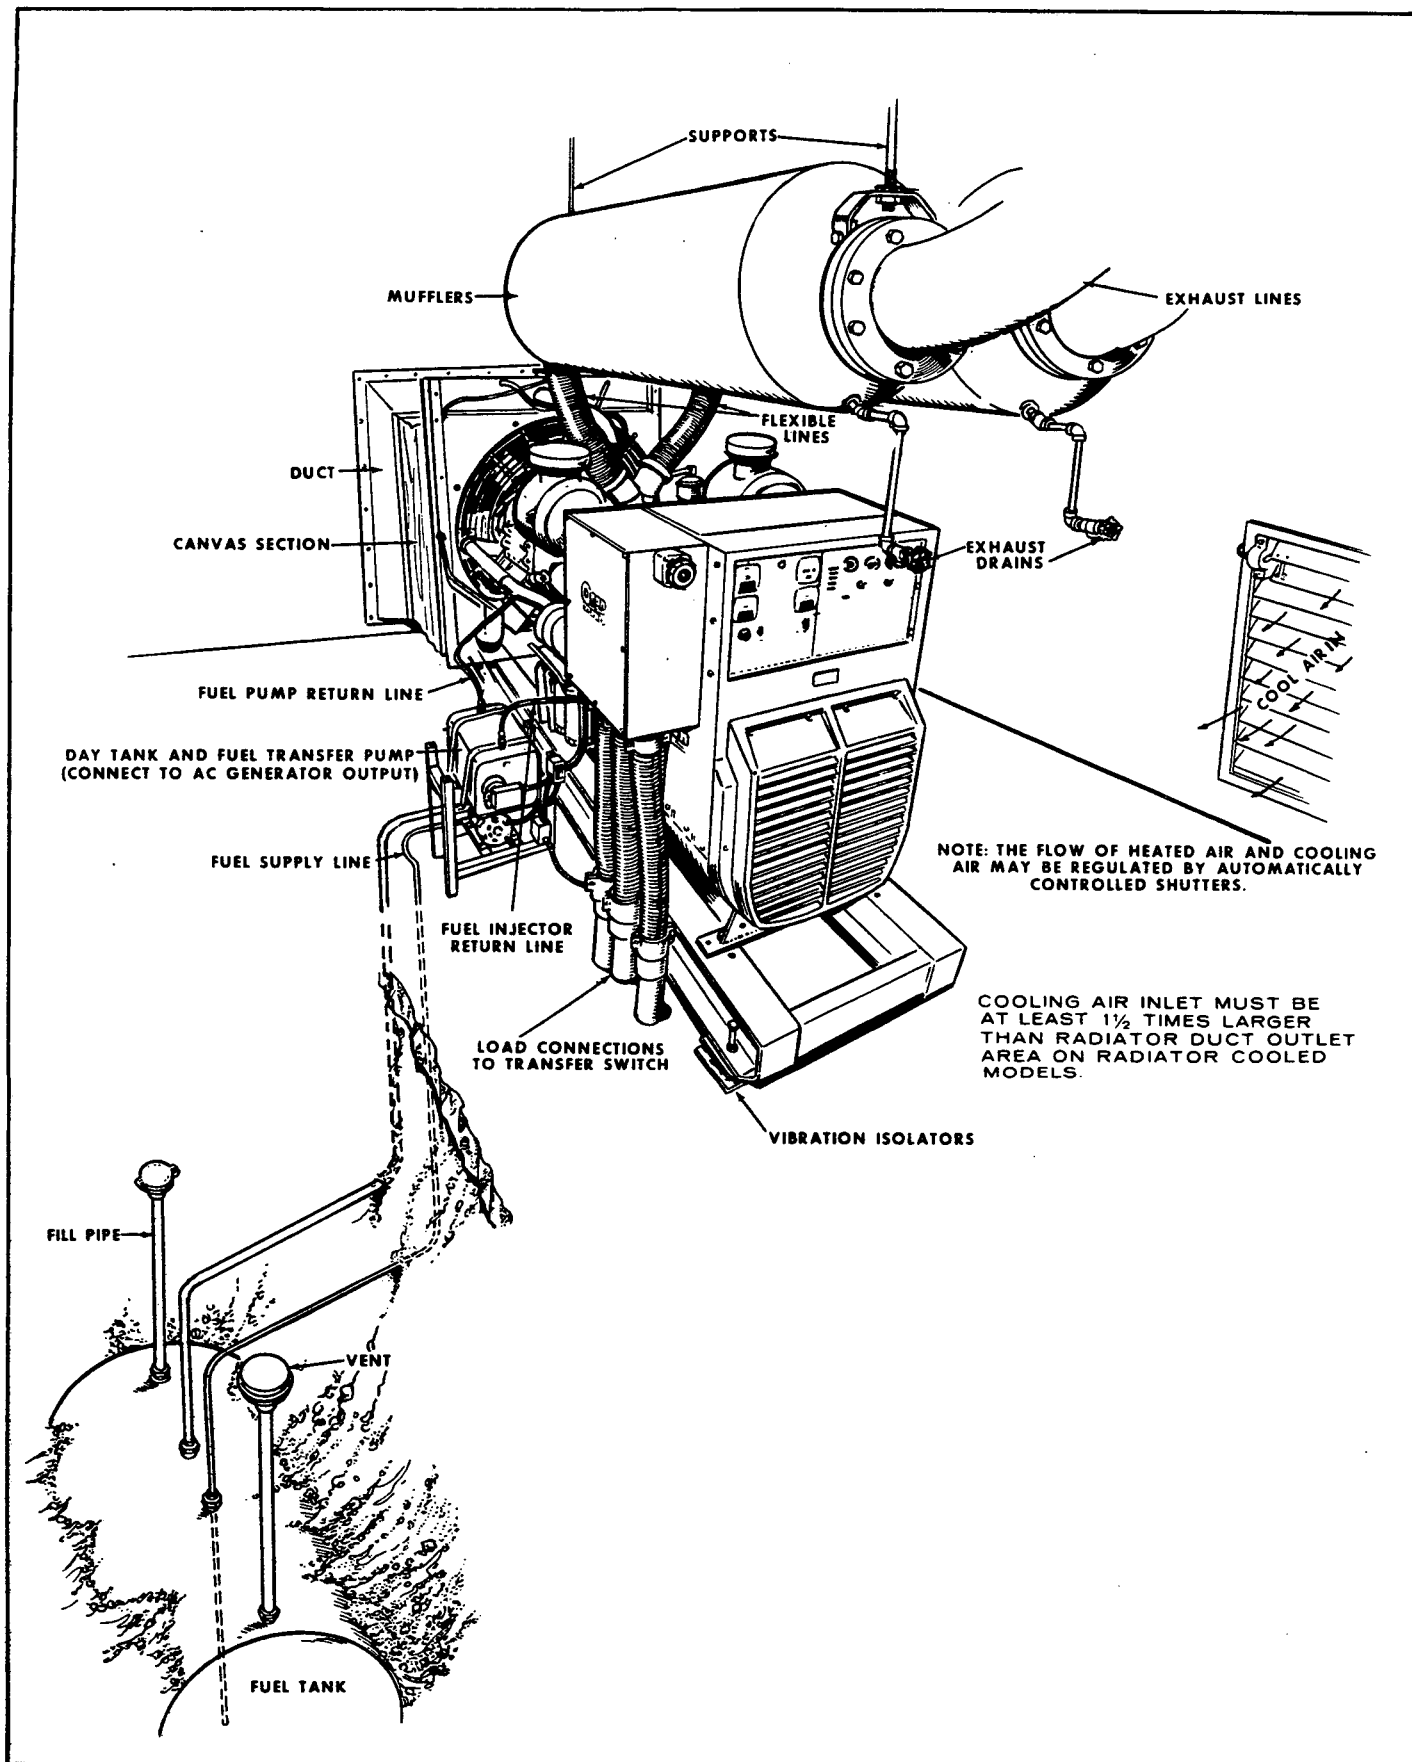
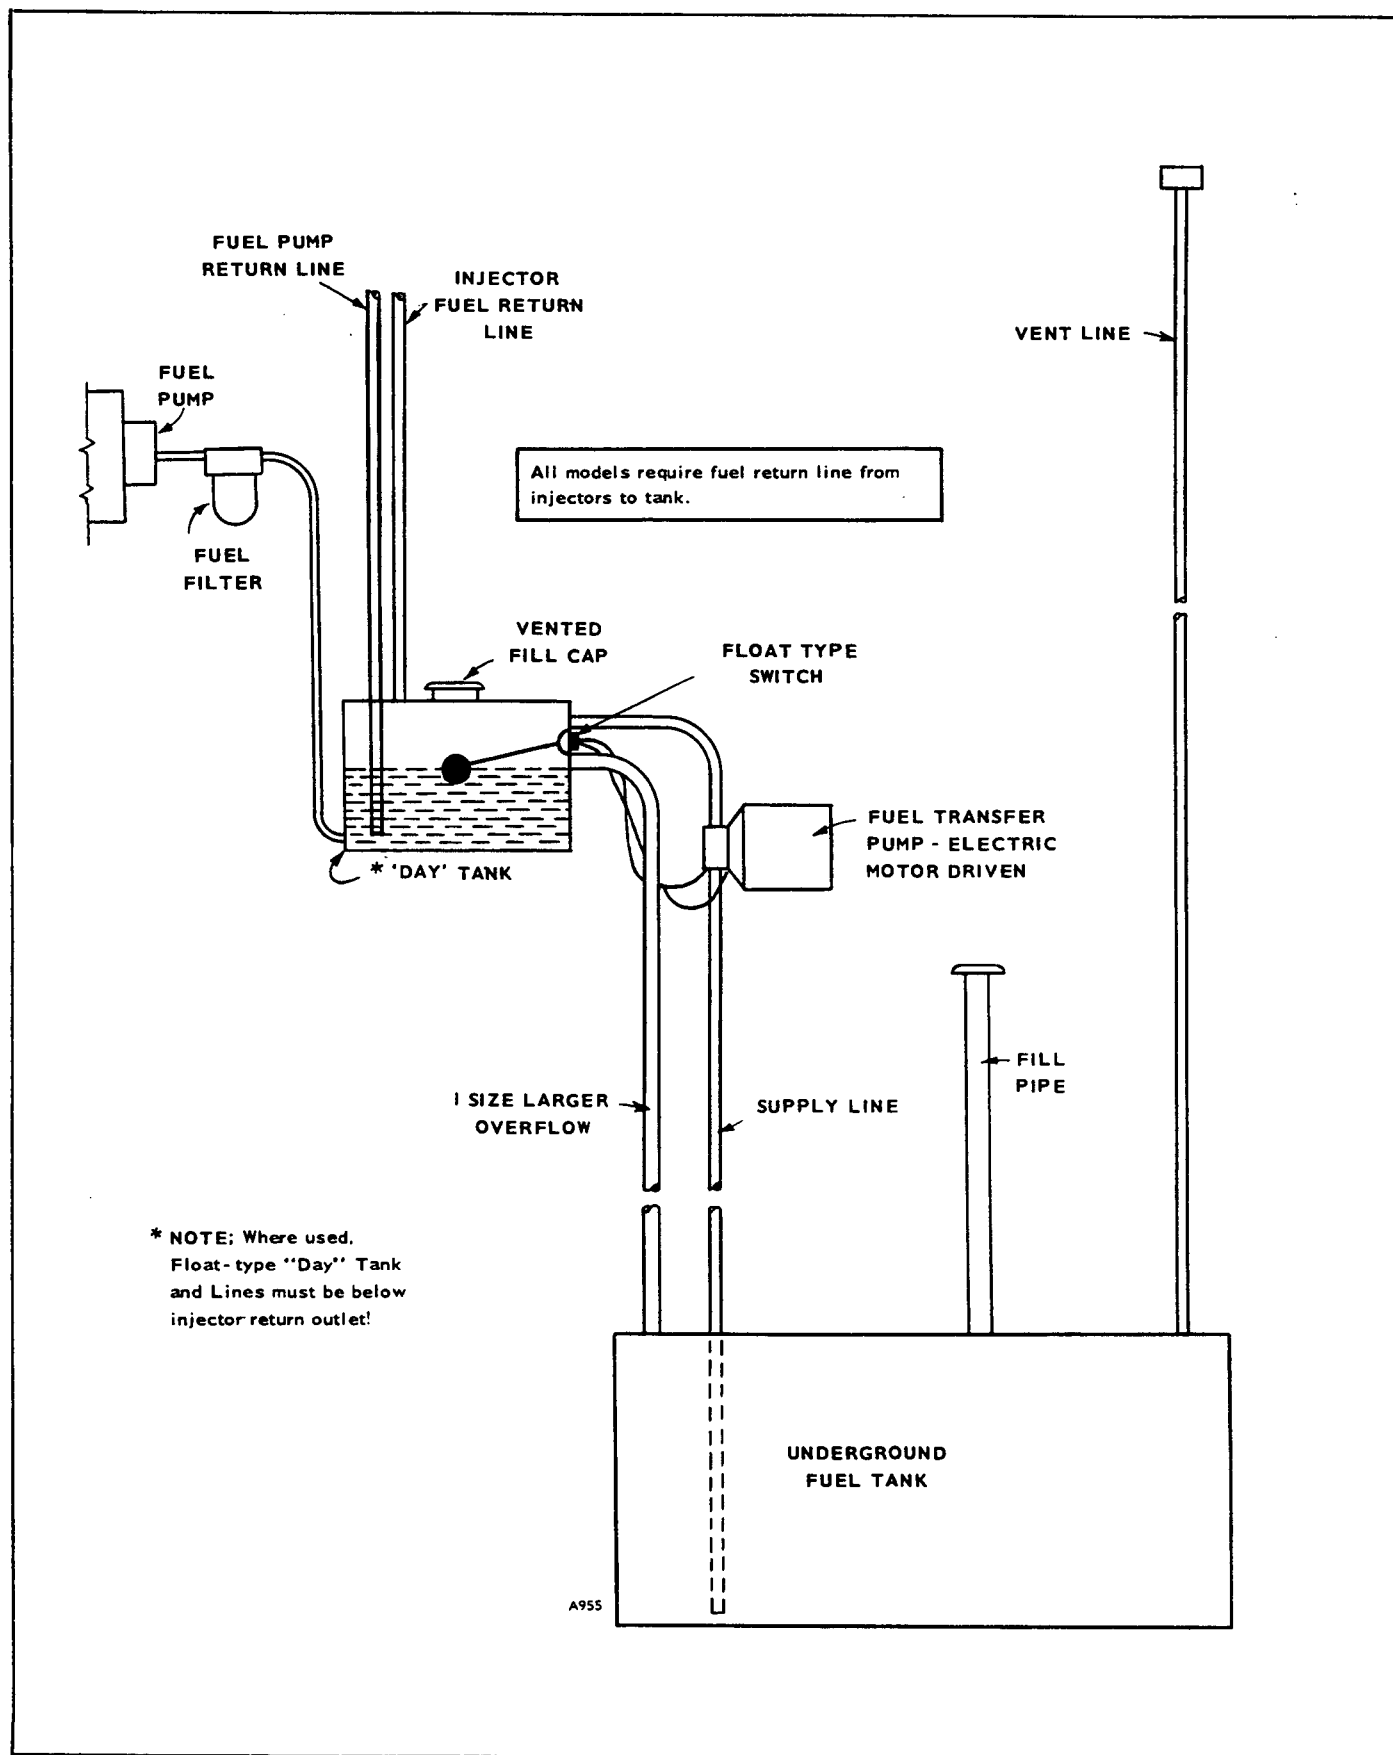

FIGURE 13. TYPICAL INSTALLATION
FIGURE 14. "DAY" TANK INSTALLATION
11. Refer to Figure 13.
Day Tank: Engines may be equipped with an optional day tank. A float operated switch controls the electric fuel pump (not included with day tank) to maintain the correct fuel level to assure a constant source of fuel. Do not mount the tank on the plant. Mount the tank on a vibration free support below the engine fuel return line. It is advisable that the fuel pump return line be submerged in fuel of the tank (see Figure 14). This prevents filtering during startup due to fuel drain-back from the fuel system into the tank. The tank overflow line to the supply tank is optional, consult local regulations. Refer to the installation instructions included with the tank and Figures 13 and 14.